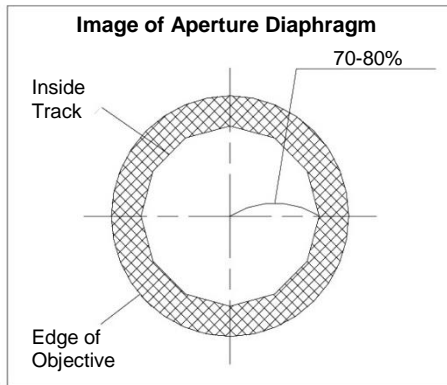

Fig. 28
As the contrast is usually low, adjust the condenser aperture diaphragm to 70-80% of the objective N.A. being used. If necessary, remove the eyepiece to observe through the eyepiece tube. Adjust the aperture diaphragm adjustment ring ② (Fig. 25) to adjust proportion until you see the image (Fig. 28).
Use of graduation: set the N.A. of the condenser to 80% of the N.A. of objective (Fig. 28).